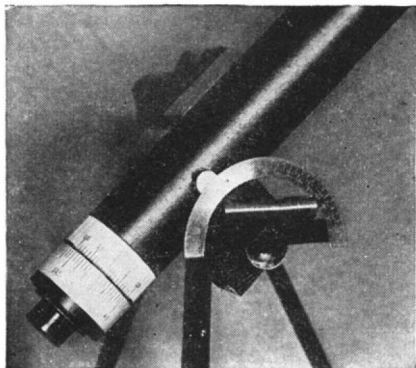

Figure 4: Fajardo's instrument
**I**N transmitting the photograph shown in Figure 4, Raul J. Fajardo, Aguilera alta 27, Santiago de Cuba, Cuba, states that he wanted an ordinary astronomical telescope plus equipment for measuring position angles of celestial objects, determining geographical coordinates, and so on. On the eyepiece end of the tube, which rotates, is a circle divided down to 5° spaces and opposite on the fixed tube is a vernier. Inside is a reticle in the eyepiece, made of threads. The whole is fairly simple and, while it splits no small hairs, it does what it was built to do.